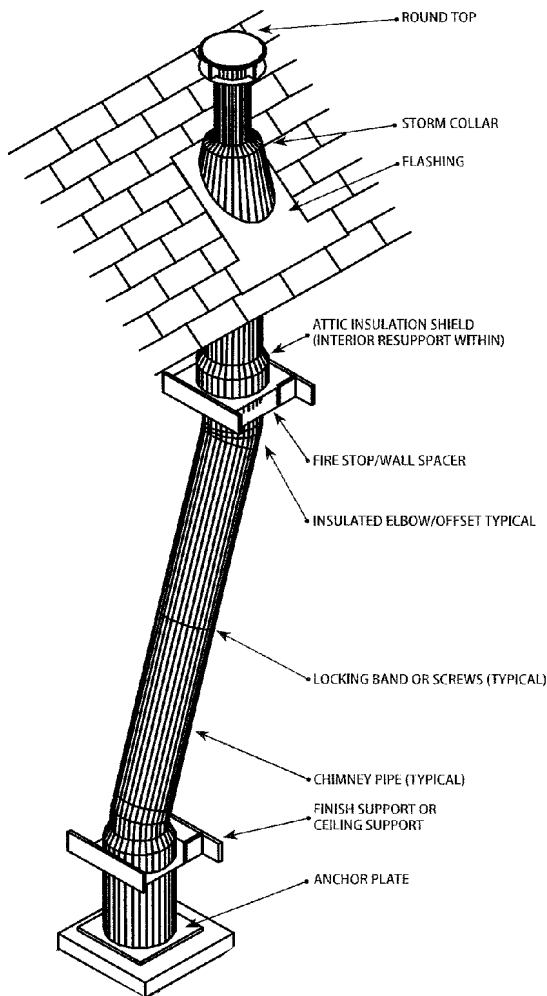

Figure 25. Metal Chimney Construction
B. Continue chimney installation as shown in Figure 25. As the chimney extends through the attic to the roof, attach securing straps to rafters and joists as required to provide stability.